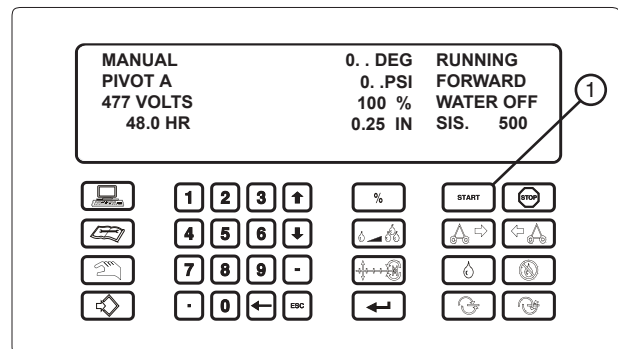

Figure 61-3 1. START key.
- Press  to start the machine in the pivot mode. See figure 61-3.